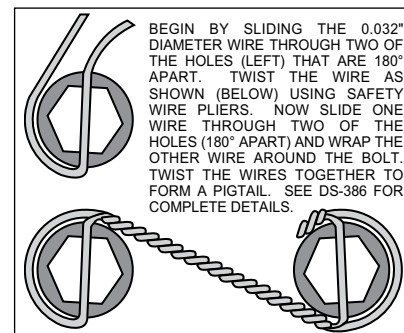

Figure 3. Safety Wire Diagram
- With the larger I.D. side of the rotor (4) facing away from the hat (5), bolt the rotor (4) to the hat (5) through the backside of the rotor using washers (6) and bolts (7). Apply red *Loctite*® 271 to the bolt threads and torque to 155 **in-lb** using a criss-cross pattern. For an added measure of security, the bolts may be safety wired using standard 0.032 inch diameter stainless steel safety wire as shown in Figure 3. Please refer to Wilwood's data sheet DS-386 (available at www.wilwood.com/Pdf/DataSheets/ds386.pdf) for complete safety wire installation instructions.